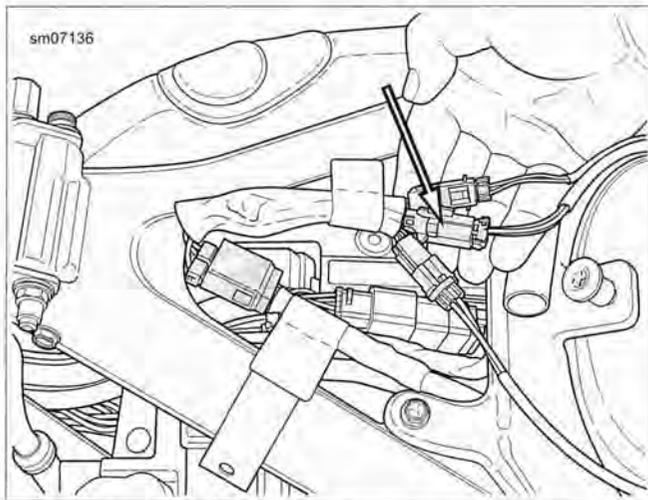

Figure 6-60. Tail Lamp Subharness Connector [40]
3. See Figure 6-60. Separate the tail lamp subharness connector [40] housings.